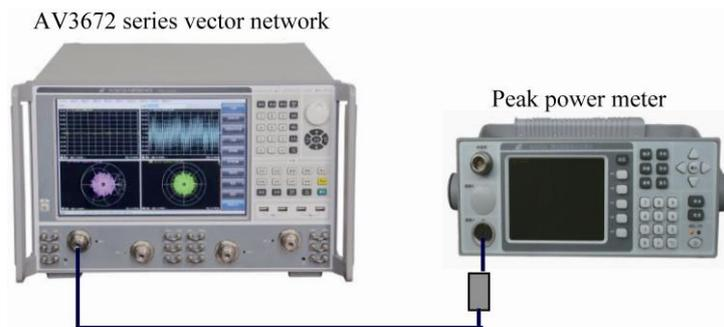

Fig. 11.14 Block Diagram of Test of Pulse Modulation Rising/Falling Time Indicators
1) As shown in Fig. 11.14, connect the system. Click [Reset] to set the AV3672 vector network analyzer into the initial state. Preheat the instrument for more than 60min.